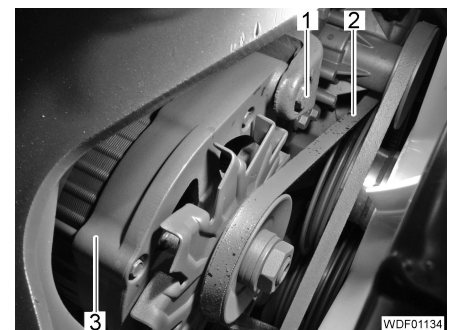

Fig. 467 Generator attachment
- Undo the screw (Fig. 467,1).
- Screw the generator (Fig. 467,3) sufficiently far towards the engine that the V-belt (Fig. 467,2) is free.
- Unscrew the screw (Fig. 467,1).
- Insert the generator (Fig. 467,3).
- Screw in the screw (Fig. 467,1).
- Place the V-belt (Fig. 467,2) over the drive pulley.